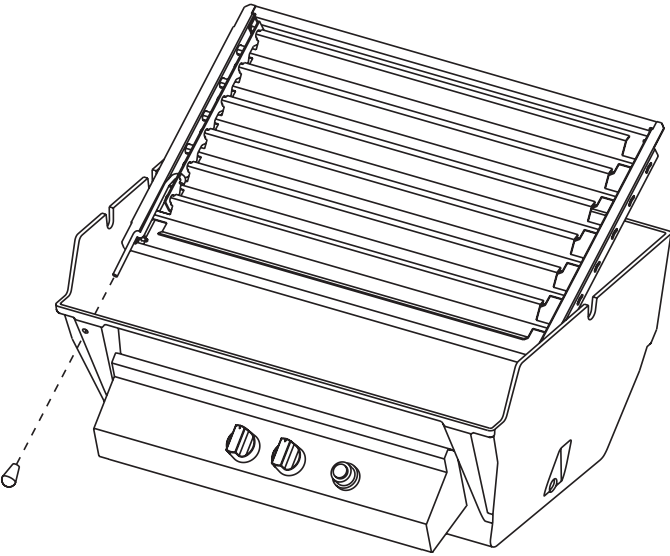

Figure 5
- Grasp center of one shutter with your right hand, Grasp actuator rod with your left hand. Pivot smoker shutter assembly into grill body bottom as you insert actuator rod through 5/16" hole that you drilled. Refer to Figure 5. The 9" actuator rod will also be inserted through front panel on the grill surround.